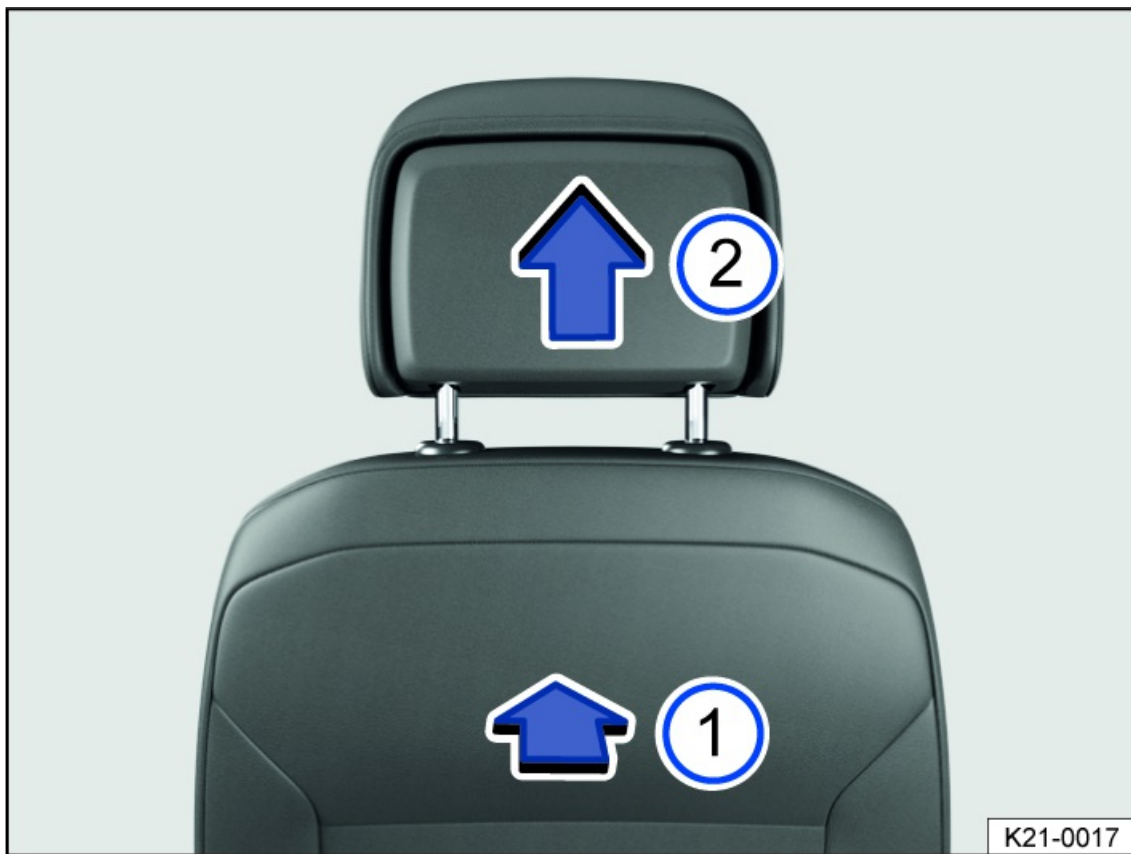

Fig. 73 Removing the front head restraint (general example).
2. To release, find the notch on the rear side in the marked area *fig. 73* and push and hold in the direction of the arrow.
3. Pull out the head restraint in the direction of the arrow *fig. 73*.